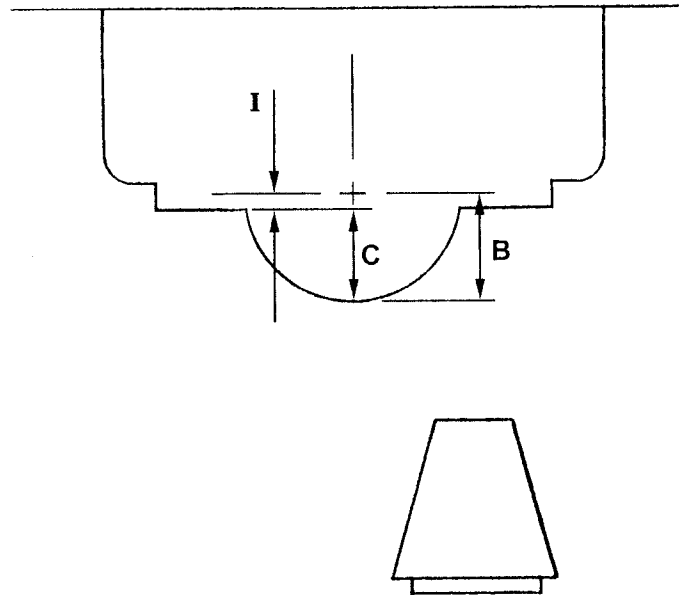

FIGURE 8
- Subtract this reading from the size of the Setting Gage. The result is "C" in Figure 8.
- Subtract "C" from "B" to find "I" ($B-C=I$). **Important note:** Figure 8 is drawn with "C" smaller than "B"; in other words, the bearing cap parting line is below the centerline. However, in some cases, "C" will be larger than "B", meaning that the parting line is above the centerline. **Always use the formula $B-C=I$. If "C" is larger than "B", then "I" will be negative. Do not ignore the negative sign.**